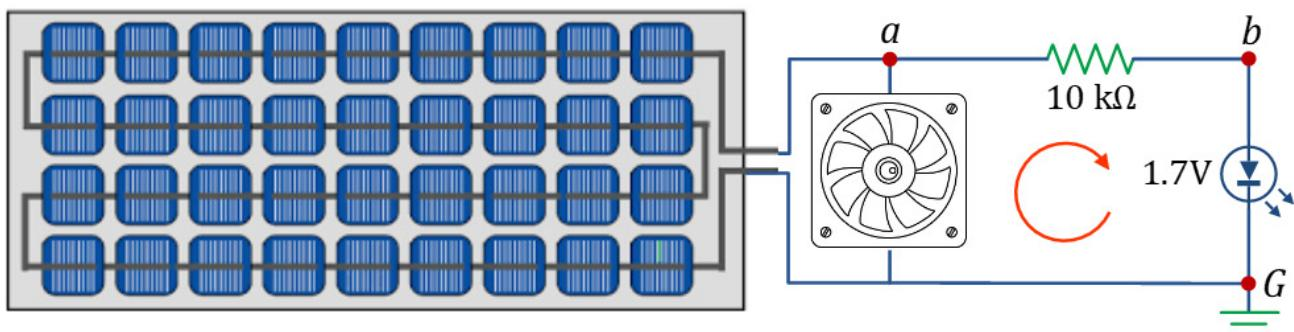

Figure 3.7. Circuit of solar powered fan with LED light for pet house.
**B.6** Build the circuit of Figure 3.7 on your prototyping board. Connect the lamp to the DC power supply and set up the lamp to work at **11 V**. Then, measure the voltages of nodes *a* and *b* with respect to reference node *G* and write them down in the Table below. Then measure the voltage across the  $10\text{ k}\Omega$  resistor,  $v_{ab}$ .
- B.7** Apply KVL for the mesh marked in red in Figure 3.7 (i.e., in the clockwise direction). Verify that KVL equations are satisfied using both sets of values (i.e., measured and calculated) and justify any discrepancies.